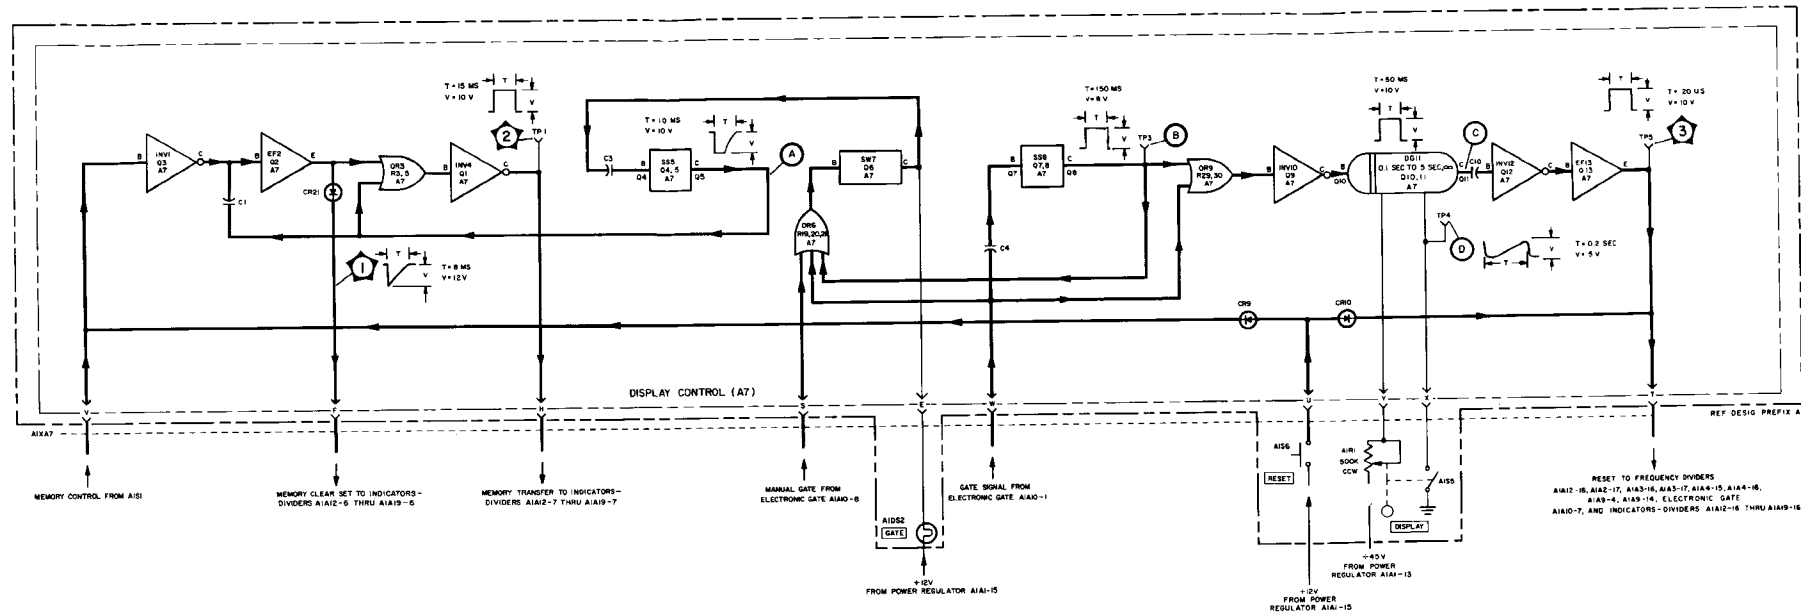

Figure 4-19. Cycle Control, Functional and Servicing Block Diagram
a. CYCLE CONTROL FUNCTIONAL DESCRIPTION. - The cycle control functional section produces all signals necessary for controlling the display and memory and for recycling the counter. It is constructed on printed circuit board A1A7. Figure 4-19 shows the functional relationship of all circuits in the cycle control, and gives test points and performs as an aid in trouble shooting.